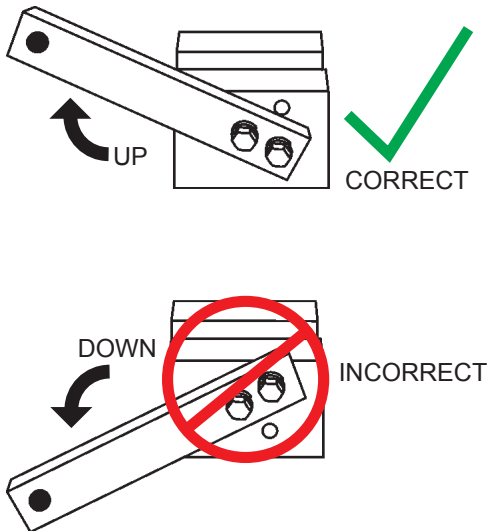

Figure 76. Fixture Arm Position (UP)
2. Make sure the fixture arm is in the **UP** position (Figure 76).